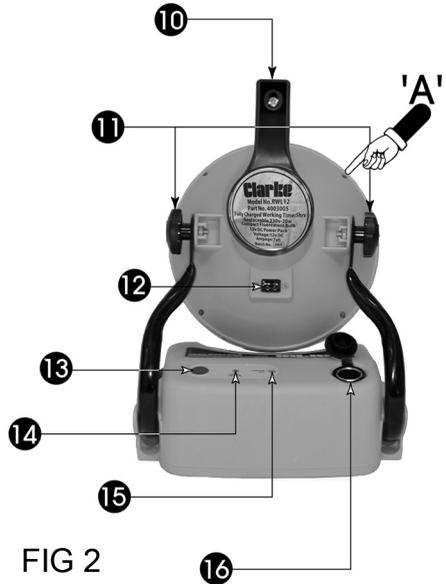

FIG 2
To charge the battery using the AC adapter, first ensure the lamp is switched off and connect the plug of the AC charger to the AC/DC Charging socket on the back of the power pack, (see Fig. 2 above). Plug the AC charger into a suitable mains socket and switch on.
2. Loosen the two adjusting knobs and adjust the angle of the lamp to gain access to the four retaining screws, ('A') on the back of the lamp housing, (See Fig 2).